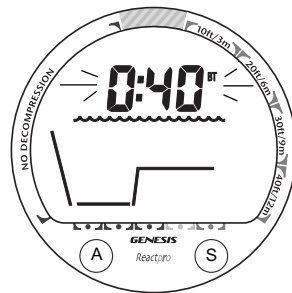

Fig. 20 - Set BT Alarm
- While viewing the Set 1 screen, press/release the A (left) button 7 times (< 2 sec each time), the Set BT Alarm screen appears with the Set Point flashing (Fig. 20).